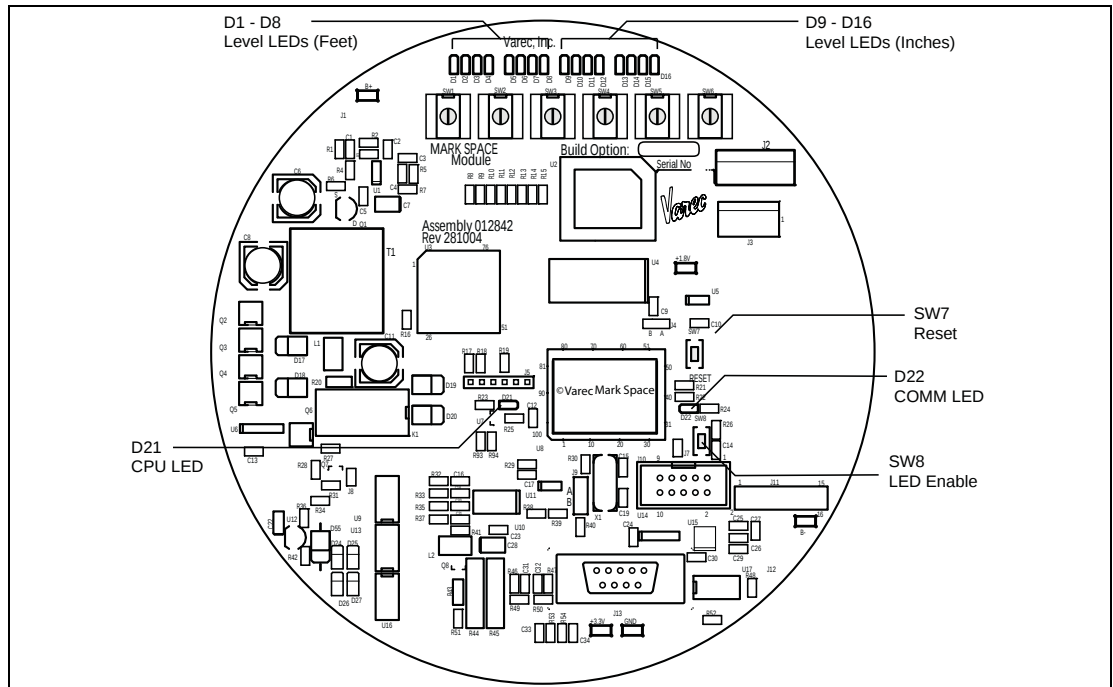

Figure 9-1: Communications Board Diagnostic Switches and LEDs (Mark/Space shown)
**Note** To activate the LEDs on the communications circuit board, press switch SW8, shown in Figure 9-1 on page 54. The LEDs will be enabled for about three minutes.
2. Press switch SW8 on the communications circuit board to enable the LEDs. To locate SW8, see Figure 9-1 on page 54.